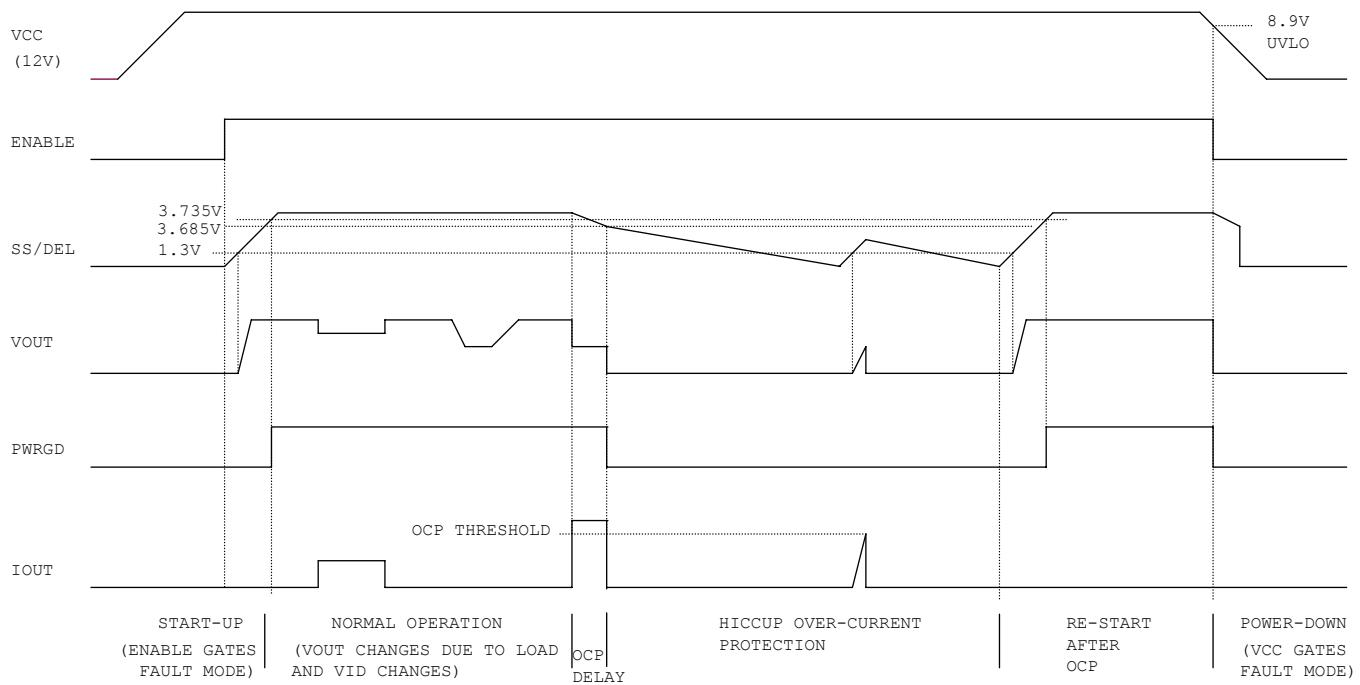

Figure 10. Operating Waveforms
Figure 10 depicts the various operating modes as controlled by the SS/DEL function. If there is no fault, the SS/DEL pin will begin to be charged. The error amplifier output is clamped low until SS/DEL reaches 1.3V. The error amplifier will then regulate the converter's output voltage to match the SS/DEL voltage less the 1.3V offset until it reaches the level determined by the VID inputs. The SS/DEL voltage continues to increase until it rises above 3.71V and allows the PWRGD signal to be asserted. SS/DEL finally settles at 3.8V, indicating the end of the soft start.
The SS/DEL pin voltage controls the slew rate of the converter output voltage, as shown in Figure 10. After the ENABLE pin voltage rises above 0.6V, there is a soft-start delay time *tssDEL*, after which the error amplifier output is released to allow the soft start. The soft start time *tss* represents the time during which converter voltage rises from zero to *Vo*. *tss* can be programmed by an external capacitor, which is determined by Equation (1).